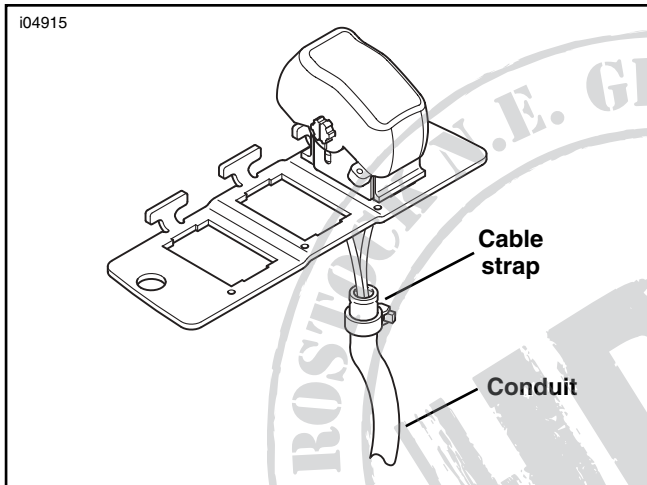

Figure 3. Install Conduit
8. See Figure 3. Slide the conduit over the switch wires until the conduit is as close to the bottom of the switch as possible. Secure the conduit using a cable strap.